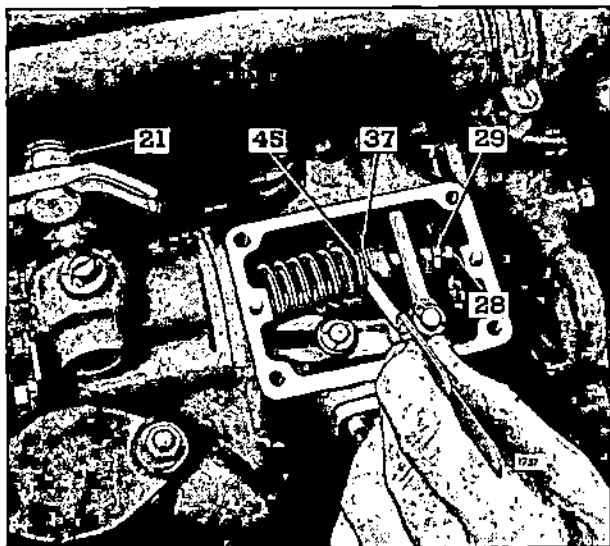

Fig. 10 - Adjusting Governor Gap
2. Place the speed control lever (21), Fig. 10, in the maximum speed position.
3. Insert a .006" feeler gage between the spring plunger (45) and the plunger guide (37). If required, loosen the lock nut (29) and turn the gap adjusting screw (28) in or out until a slight drag is noted on the feeler gage.